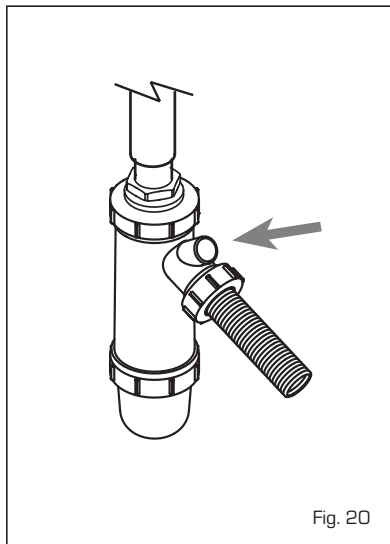

Fig. 20
4.5 MAINTENANCE (fig. 20)
If necessary, the drip plate can be filled using the tap provided (fig. 20).